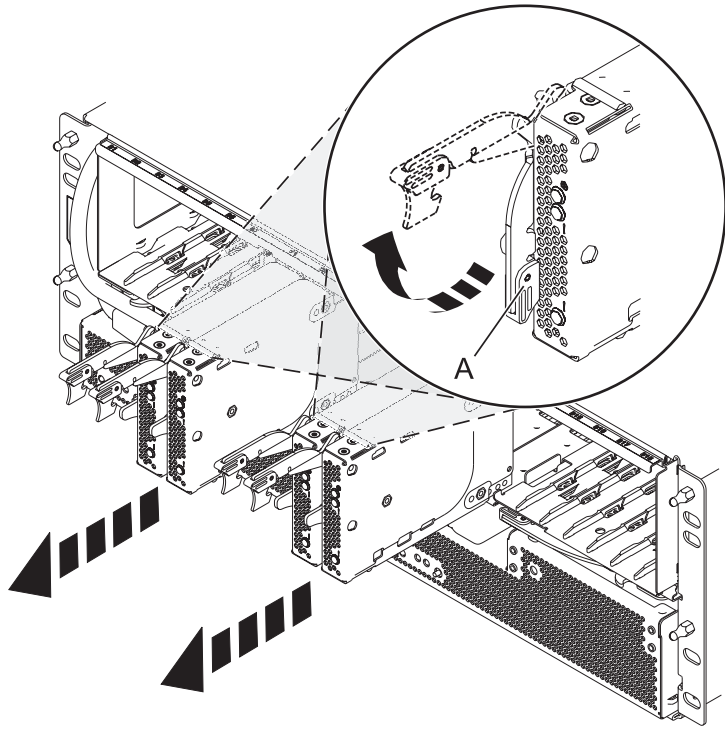

Figure 52. Removing the port card from the backplane
5. Remove the port cards and fillers as shown in Figure 52 on page 69.